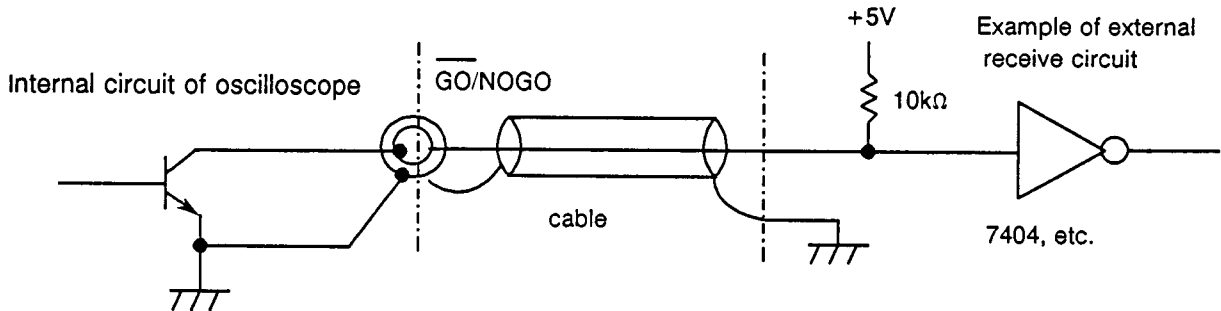

Fig. 6-56
1. The signal delivered by the GO-NOGO judgment function is an open-collector output. It is recommended to receive the output signal by the circuit as illustrated in Fig. 6-56.